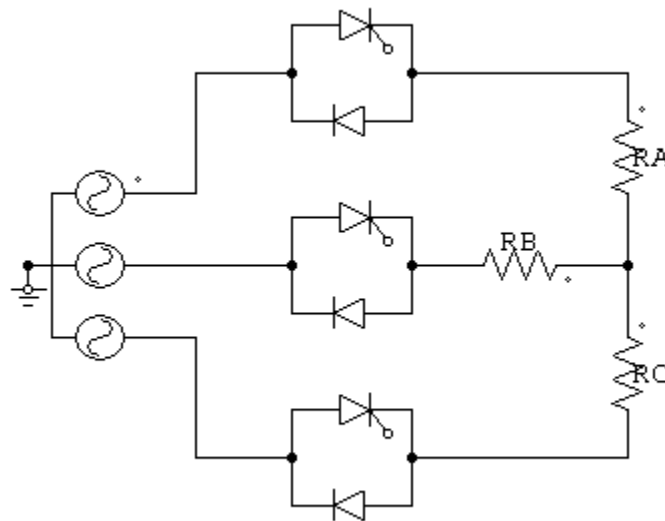

Figure 3: Half wave ac controller
3. The three phase half wave ac controller is shown in Figure 3 supplies a wye-connected resistive load of $R=10\Omega$ and the line to line input voltage is 208 V (rms), 60 Hz. If the delay angle for the balance system is $\alpha=\pi/3$, determine: